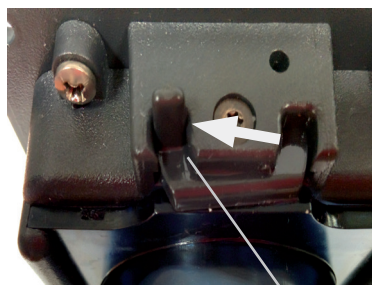

Figure 6.
3. To lock cover in place, push lock lever down on the cover while turning the vertical tab 180° from right to left. See Figure 6.